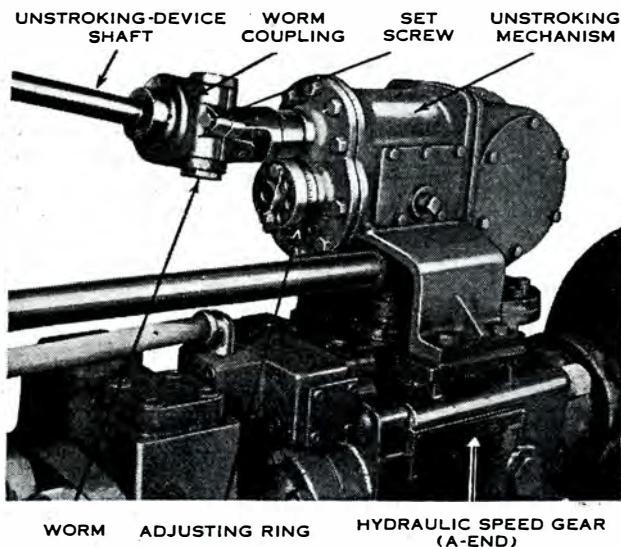

Figure 19. Unstroking mechanism.
(1) Glycerin, grade A, USP, 60 parts by volume.
(2) Distilled water, 40 parts by volume.
(3) One ounce of sodium hydroxide (CP NaOH), sticks or pellets, to each 3 gallons of the mixture, or 1 pound of sodium hydroxide to 48 gallons of mixture.
d. **To adjust the unstroking device.** (1) **General.** To adjust the unstroking device, first check the withdrawal cut-off point to see that it automatically stops the rammer just before the rammer head contacts the stop pins. To do this, run the rammer, under power, part way forward onto the loading trough and then, controlling the speed, *slowly* withdraw it until the unstroking device stops the rearward movement. If adjustment is necessary, loosen the setscrew (fig. 19) on the worm coupling in the unstroking
(2) *Adjustment of the ram cut-off point.* This adjustment is made through the adjusting ring (fig. 19) on the rear end of the unstroking mechanism beneath the worm coupling. First, ram a dummy projectile into the chamber of the gun, seeing that it is properly seated. Next, move the rammer head into the chamber until it rests against the base of the projectile. At some convenient point make marks that